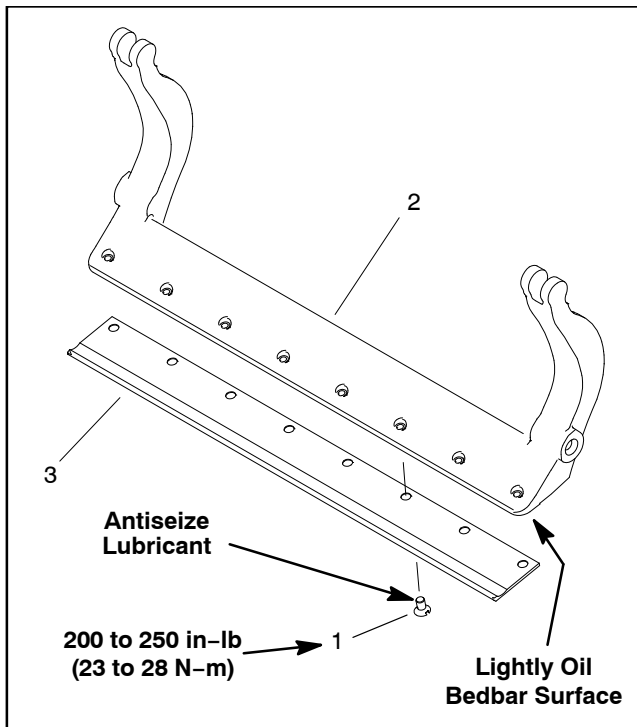

Figure 25
2. Remove screws from bedbar using a socket wrench and bedknife screw tool (see Special Tools in this chapter). Discard all removed screws. Remove bedknife from the bedbar (Fig. 25).